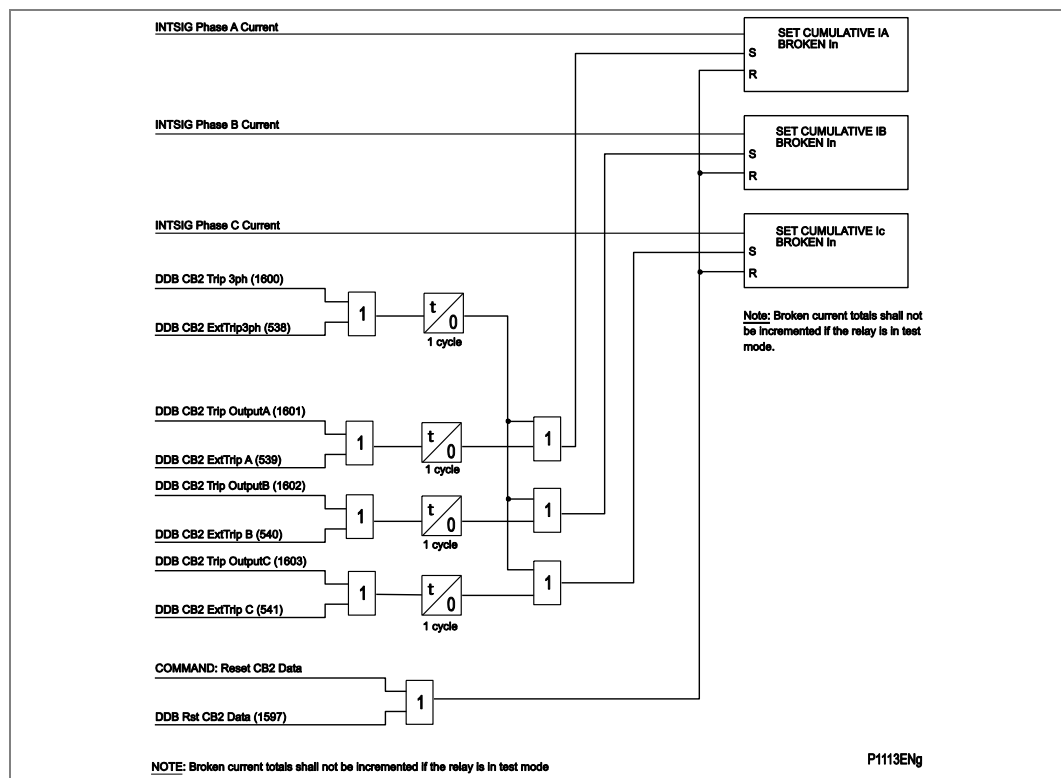

Figure 131 - CB2 condition monitoring – broken current
- Figure 131 - CB2 condition monitoring – broken current